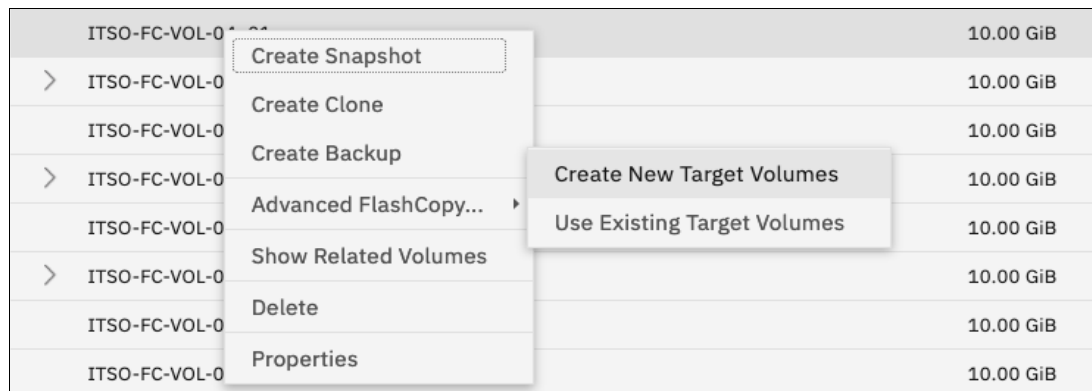

Figure 10-27 Creating a FlashCopy mapping and creating targets
1. Right-click the volume that you want to create a FlashCopy mapping for and select **Advanced FlashCopy** → **Create New Target Volumes**, as shown in Figure 10-27.